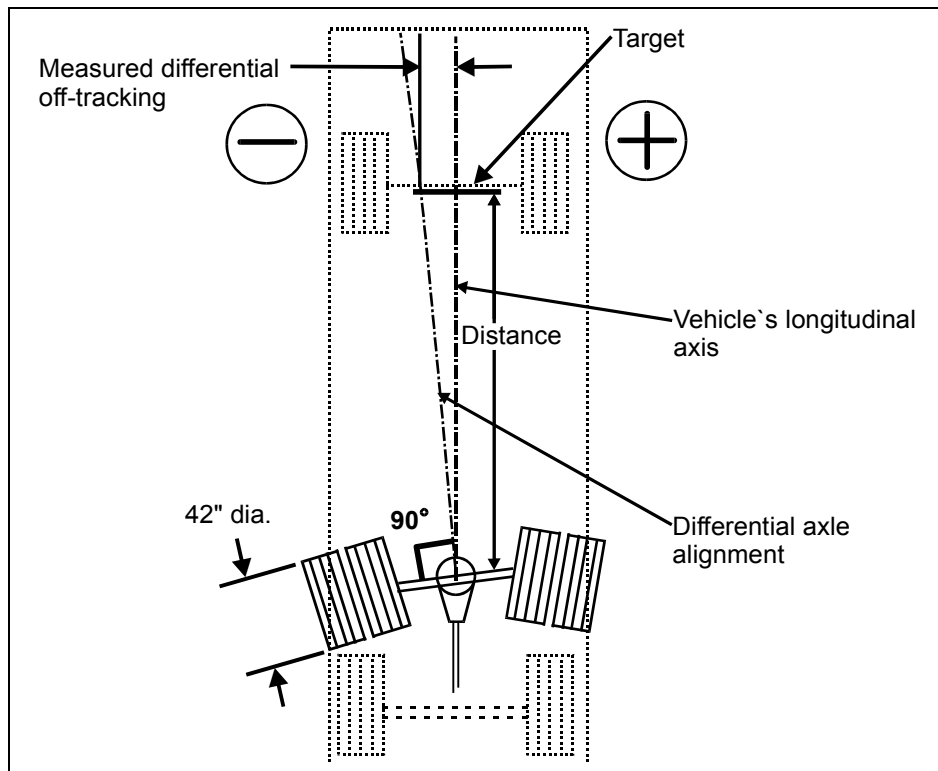

FIGURE 8: DRIVE AXLE OFF-TRACKING
3. Measure the real differential off-tracking (Fig. 8).